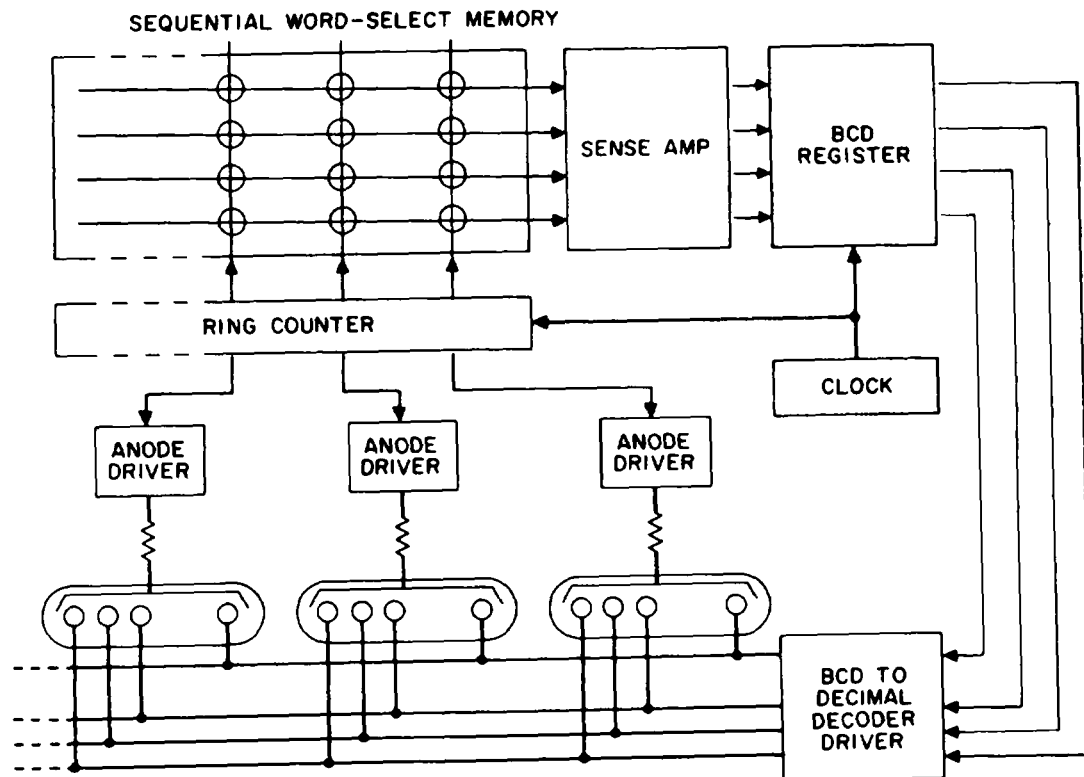

Figure 7. BLOCK DIAGRAM
- In a typical strobed/time sharing application, (Figure 7) "same-numeral" cathodes (i.e., all 1's, all 2's, etc.) of all tubes are connected in parallel and the anodes are strobed sequentially. The rapid strobing is above the flicker rate and visual indication is normal. However, since the "on" duty cycle is not 100%, a higher than normal current is used to compensate for loss of brightness. The B-5750 NIXIE tubes are constructed and specified for these peak current conditions and no extraneous glow is exhibited during this operation.